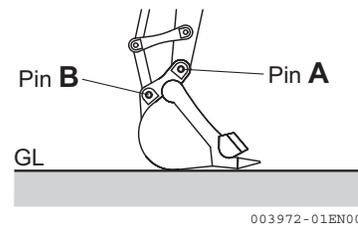

Fig. 3-77
4. Remove pins (**Fig. 3-77, A**) and (**Fig. 3-77, B**).
8. Install the split pin into the bucket pins (**Fig. 3-77, A**) and (**Fig. 3-79, B**).